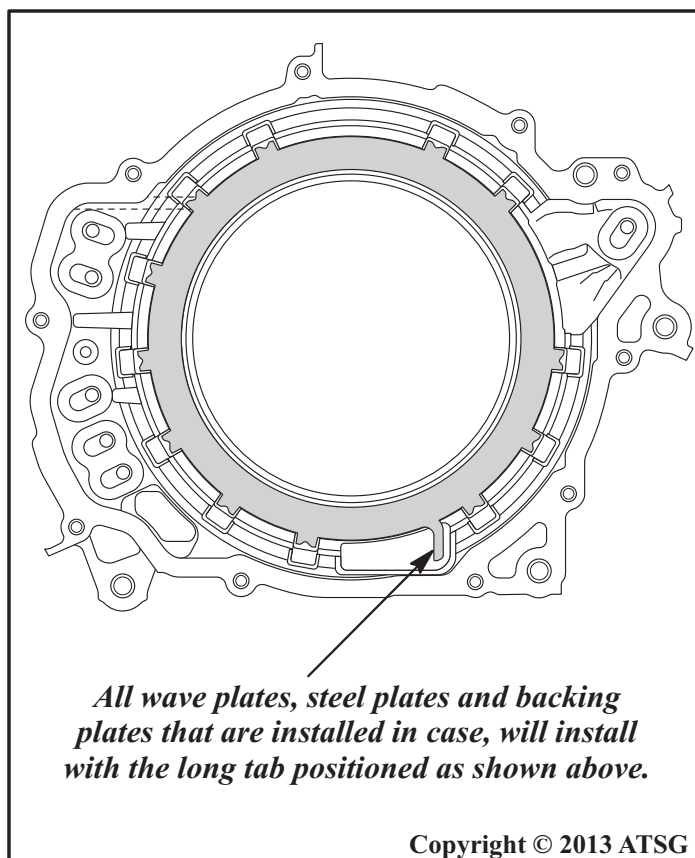

Figure 205
**Note: All wave plates, steel plates and backing plates that are installed in case, will install with the long tab positioned in the case, as shown in Figure 205.**